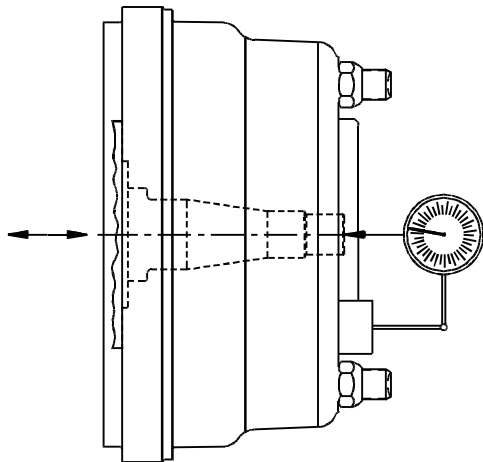

Figure 29 - Wheel End Play Measurement
8. Rotate the hub and drum ten (10) complete revolutions.
13. Attach a dial indicator with a magnetic base to the face of the hub. (See Figure 29). Note the brake drum is shown for reference only.